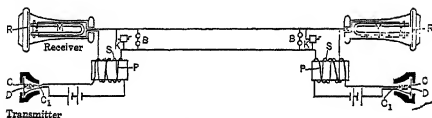

FIG. 166. Diagram of a telephone line.
The way these changes are accomplished can be best understood by reference to Fig. 166.
**Prob. 6-8.** Add to the circuit of Fig. 166 a switch in each transmitter circuit to open the local battery circuit thus conserving the batteries when the receiver is hanging in its usual position. This switch must close, of course, when the receiver is lifted.